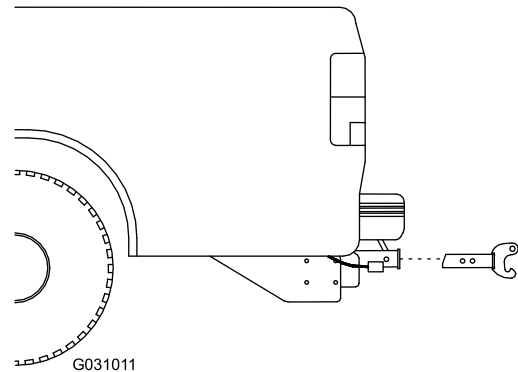

Figure 10
- Slide the RT3 hitch into the receiver hitch of your vehicle and line up the second hole on the spreader hitch with the hole in the hitch of your vehicle (Figure 10).